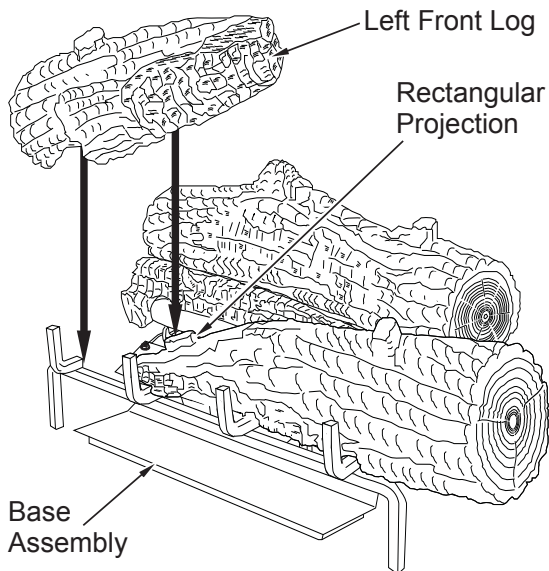

Figure 37 - Installing Left Front Log
4. Place the left front log onto the base and the right front log as shown in **Figure 37**. The left front log has a notch on the bottom that will line up with the projection on the right front log.